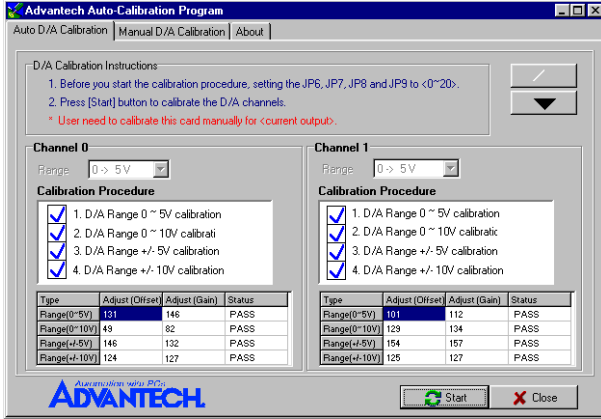

Figure D-8: D/A Calibration is finished
Step 8: Auto-calibration is finished (Fig. D-8)